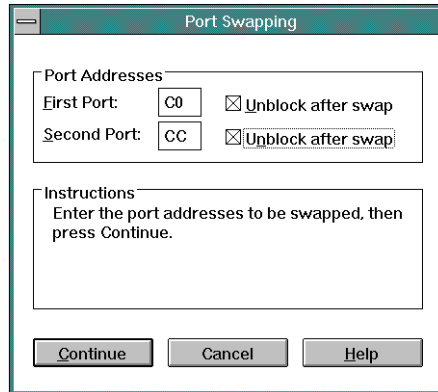

Figure 3-23. The Port Swapping Dialog Box
2. From the *Maintenance* menu, select the *Swap Ports* option. The *Maintenance Authorization* dialog box prompts you for a maintenance authorization password (the default is LEVEL002). When the password is entered and accepted, the *Port Swapping* dialog box (Figure 3-23) displays.